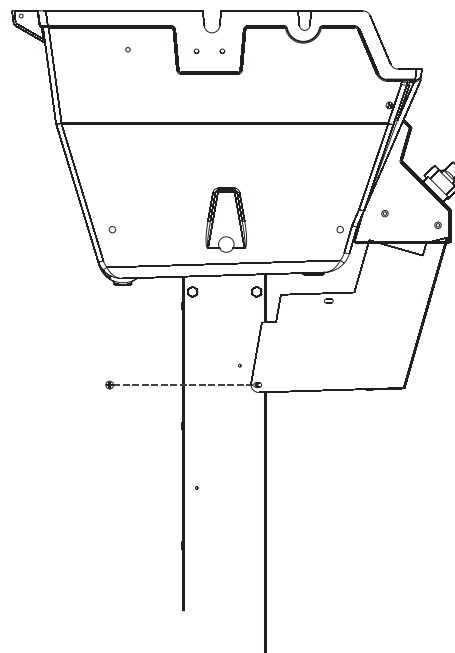

Figure 5
Attach the control housing (6) using two #8 x 1/2" Phillips Truss screws or two plastic panel fasteners as shown in Figure 5.